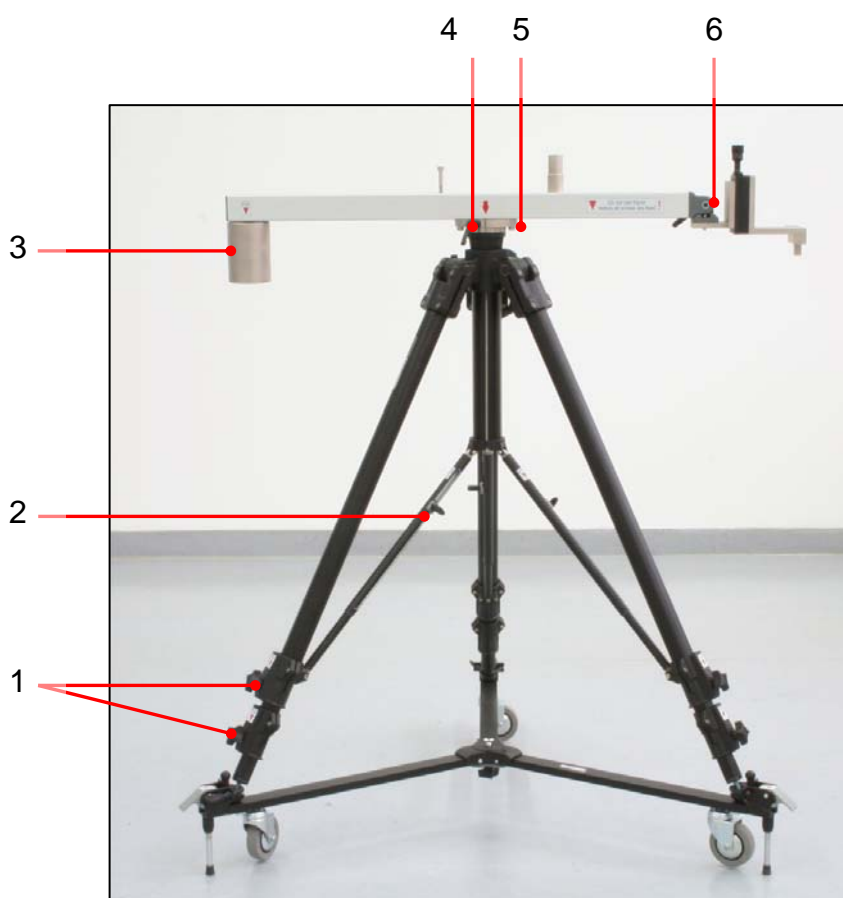

Fig. 27: Tripod completely assembled with cantilever and measuring head holder
4. Tighten fastening screws of the tripod legs and stiffeners (see Fig. 27, pos. 1 and 2).
5. Attach cantilever on the swivel joint (see Fig. 27, pos. 4) of the tripod with two hexagon sockets (see Fig. 27, pos. 5).
6. Push in counterweight at the end of the cantilever (see Fig. 27, pos. 3) and attach at the fixed position.
7. Lock into place and secure measuring head holder with Z-stage on the swivel joint (see Fig. 27, pos. 6).